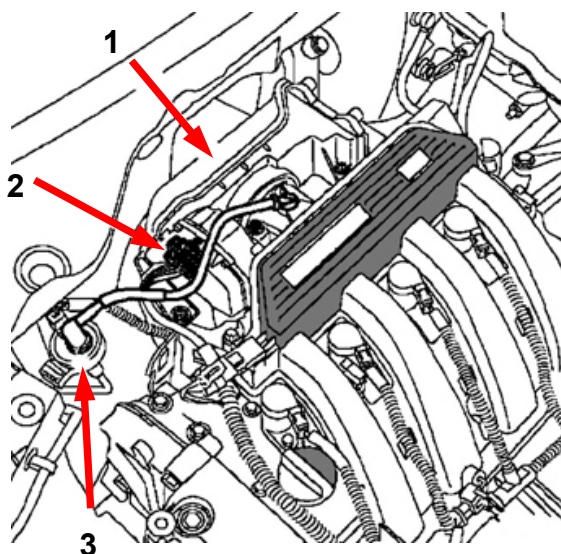

Fig. 1
- Remove the throttle-blade unit. To do this, dismantle the air-filter housing (see Fig. 1, 1).
- Disconnect the plug of the throttle-blade unit (see Fig. 1, 2), as well as the cable of the fuel-vapour recirculation system on the control valve (see Fig. 1, 3).